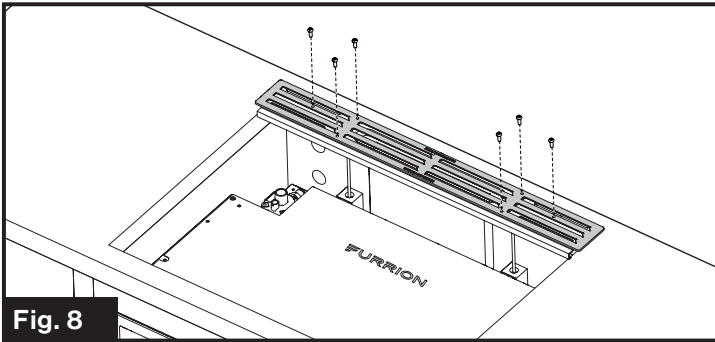

Fig. 8
4. Secure the vent cover onto the vent assembly with the six screws provided (M3 x 8mm). (Fig. 8)